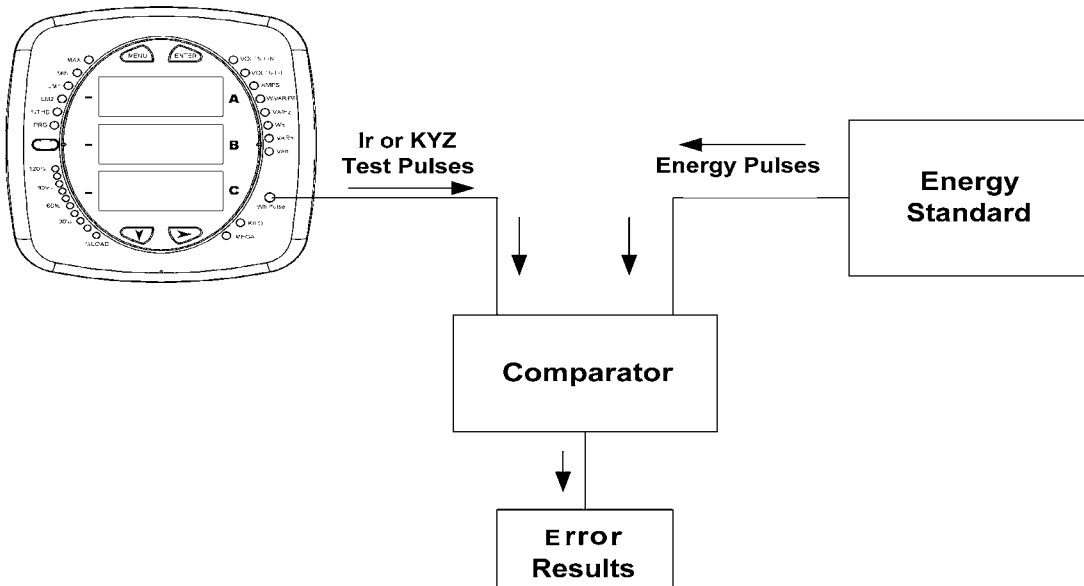

Figure 6.6: Using the Watt-Hour Test Pulse
- Refer to Figure 6.6 for an example of how this process works.